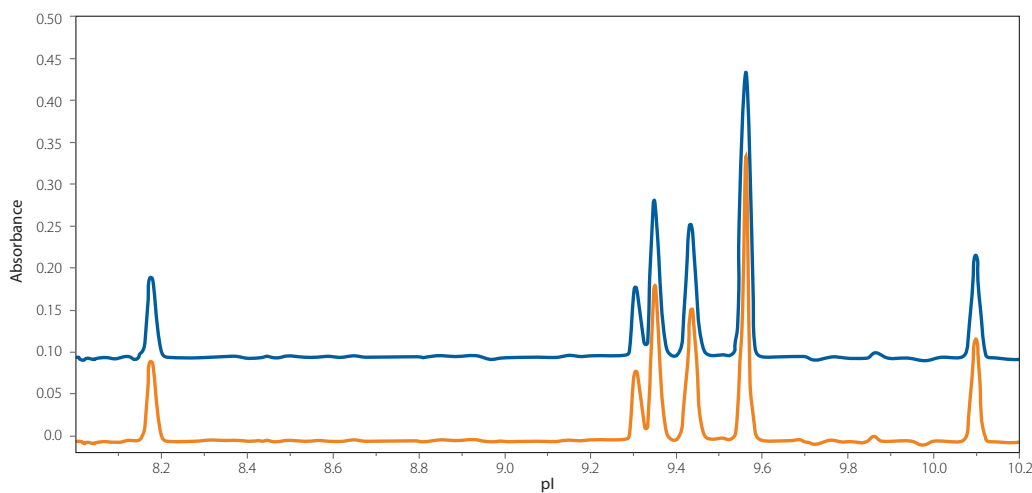

FIGURE 4. Reproducible peak profile.
3. Evaluate your injection profiles. For each sample, review both injections and compare the peak profile. Your peak profiles should be reproducible as shown in Figure 4. If the duplicate sample injections don't have the same peak profile, move on to the next section. If the duplicate peak profiles are reproducible, skip to the Resolution Optimization section.
parameters used previously. When the Batch is complete, review both injections and compare the peak profiles (which should be reproducible) as shown in Figure 4. If your duplicate sample injections aren't reproducible, you'll need to increase the amount of urea (see Appendix B for the sample denaturing procedure). If your duplicate injections are reproducible and the resolution is acceptable, your method development is complete. If you need greater peak separation, move on to the Resolution Optimization section.